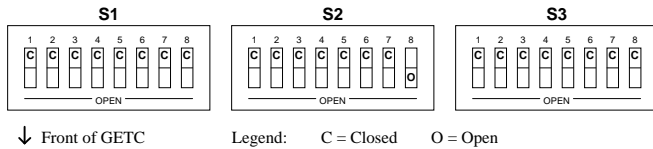

Figure 16 - Test Mode - Repeat
1. Configure the DIP switches as shown in Figure 16. Reset the GETC (S4).